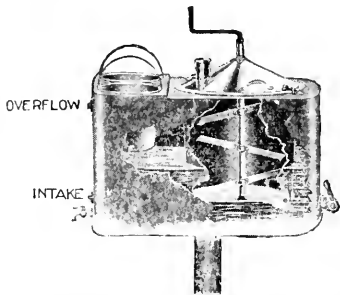

FIG. 66 - MIXER AND GLUE HEATER
To prepare hot glue, break it into small pieces and soak for 12 hours in cold water before boiling. Always use a glue pot of the double boiler type, one of which is shown in Fig. 66. This has a mixer as well as the seperate glue pots in which the glue is afterwards placed. It should be the consistency of thin syrup when applied.
**71. Glue Heaters**--The glue heater shown in Fig. 66 may be attached to a live steam pipe so as to heat the water for preparing the glue and keeping it heated, or have gas burners placed beneath it. In mixing glue, always keep in mind that glue which has been heated very many times loses its strength. For this reason no more should be mixed at a time than can be used with miinum number of re-hearings.